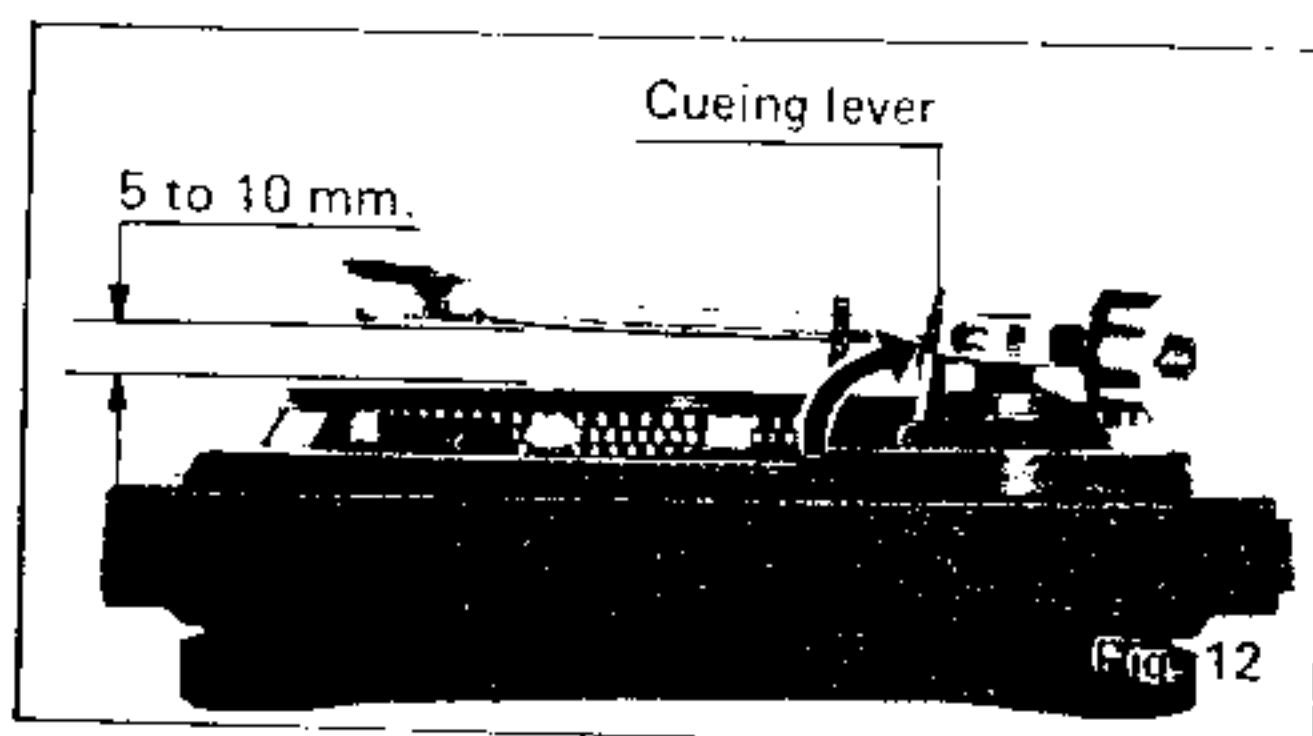

Fig. 12
**Adjustment of the arm lift height.** (See Figs. 12 and 13).